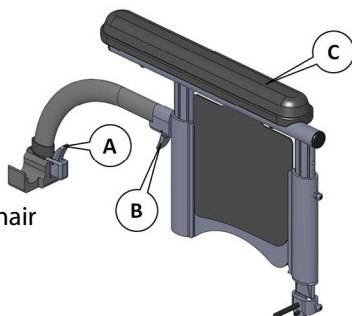

Figure 48 : Type "U" in Armrest
2. By default, the upright position is 0° . To obtain a negative tilt, move the adjustment block **D** and the gas cylinder **G** forward (figure 48-b).
4. To obtain a negative tilt, move the adjustment block **D** and the gas cylinder **G** toward the holes for the negative tilt (figure 48-b).